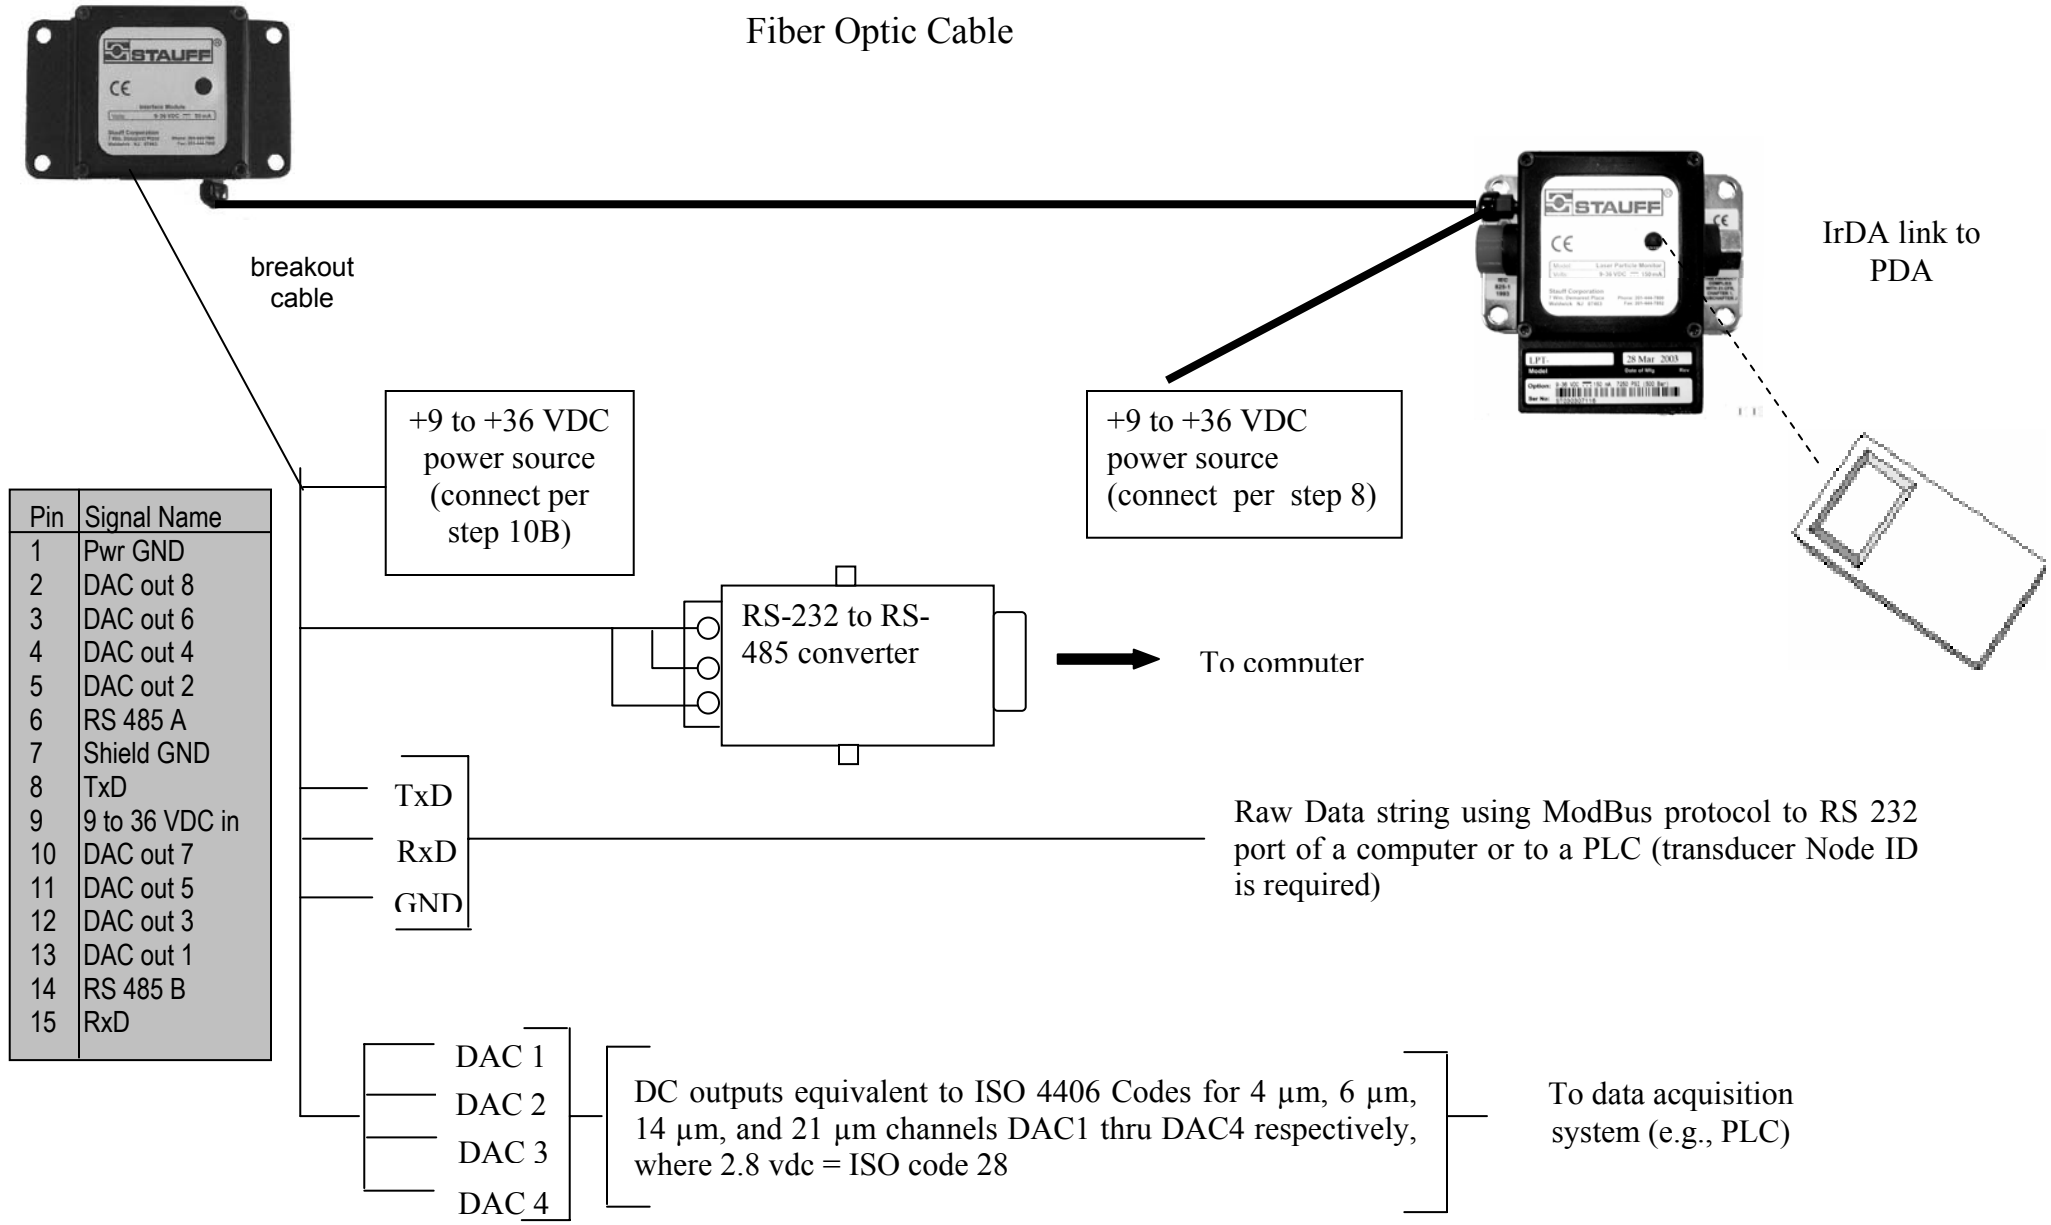

Figure 17. LPM-4 Signal Connections (breakout cable shown)
b) LIM-3: The LIM-3 and the LPT in this configuration are each powered by their own external +9 to +36 V power source. Make connections as shown in Figure 17.